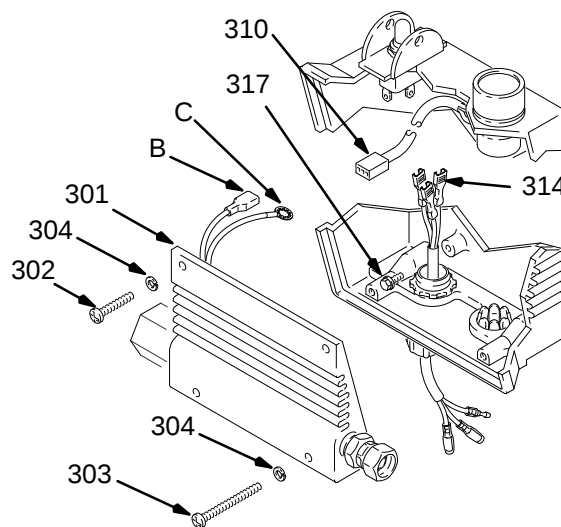

Fig. 2
4. Remove the four mounting screws and washers (302, 303, 304) from the pressure control cover (76). See Fig. 2.
5. Carefully remove the engine control board (301) so as not to stress the cables.
6. Disconnect the black and white wires of the pressure control cable (314) from the engine control board.
7. Disconnect the potentiometer cable assembly (310) from the pressure control cover.
8. Disconnect the red power lead (B) from the ON/OFF switch.
9. Loosen the ground terminal screw (317) and disconnect the ground lead (C).